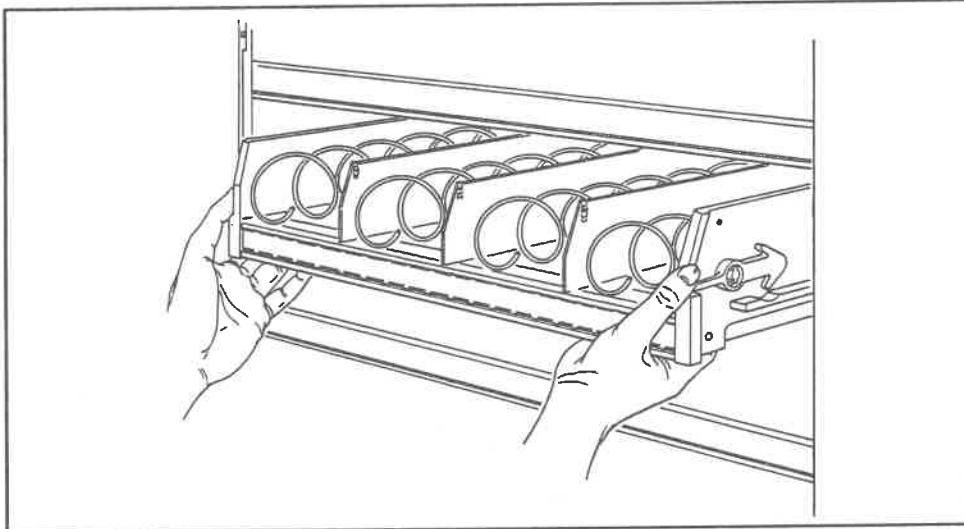

Figure S-3a
- \* Pull the tray forward until you hear and feel the back rollers of the tray drop into the cut-out in the top of the guide rail. See Figure S-3a.